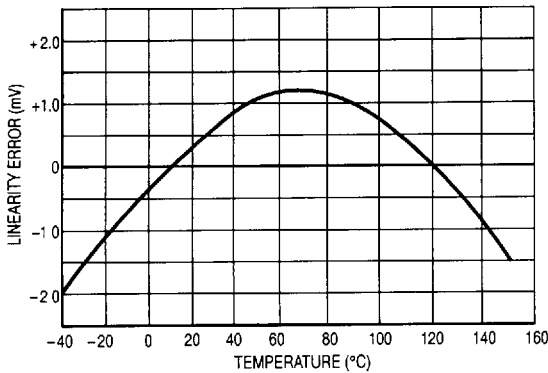

Figure 4. Linearity Error versus Temperature
- All devices within an individual group, as described in Note 1, will track within the specified temperature accuracy. This includes variations in T_C , V_{BE} , and nonlinearity in the range -40 to $+150^\circ\text{C}$. Nonlinearity is typically less than $\pm 1^\circ\text{C}$ in this range. (See Figure 4)